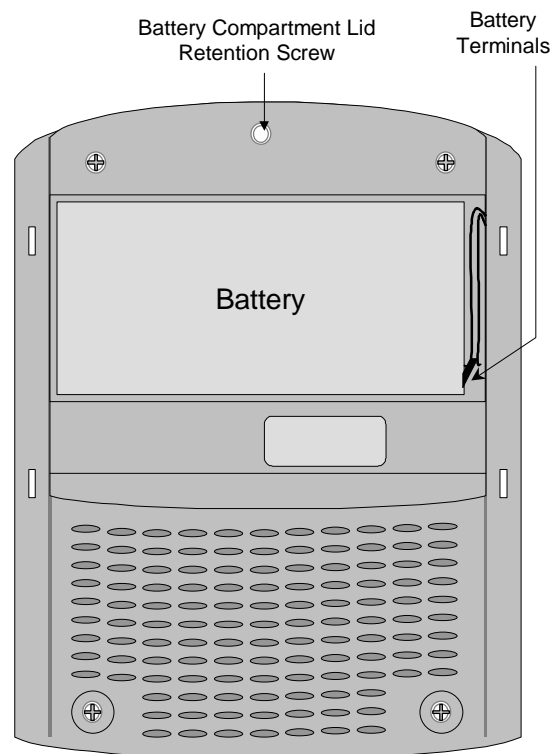

Figure 33. R Series Service Interface Unit Battery Compartment
6. Remove the battery compartment lid by undoing the retention screw. Fit the standby battery as shown in Figure 33. Connect the battery to the spade terminals ensuring the correct polarity. Replace and secure the lid.